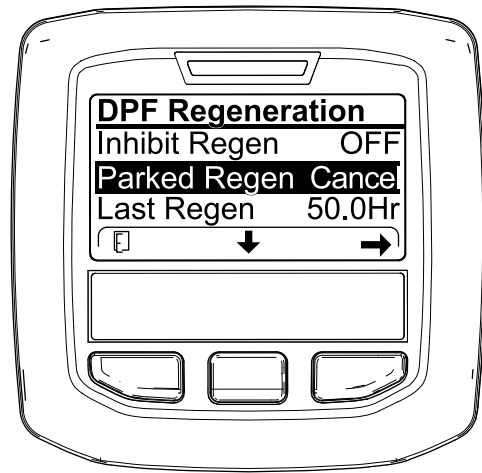
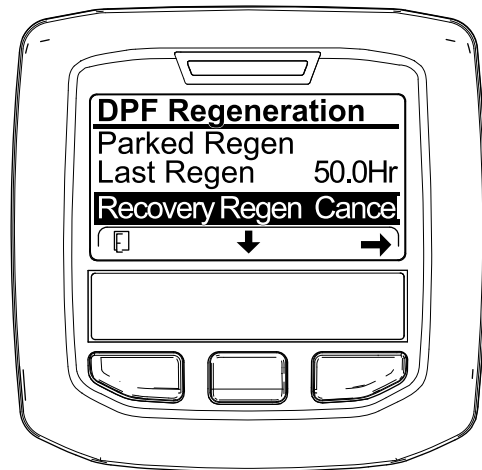

Figure 88
Figure 89
1. Access the DPF Regeneration menu (Figure 88).
2. Press the center button to scroll down to the PARKED REGEN CANCEL (Figure 88) or the RECOVERY REGEN CANCEL option (Figure 89).
3. Press the right button to select the Regen Cancel entry (Figure 88 or Figure 89).